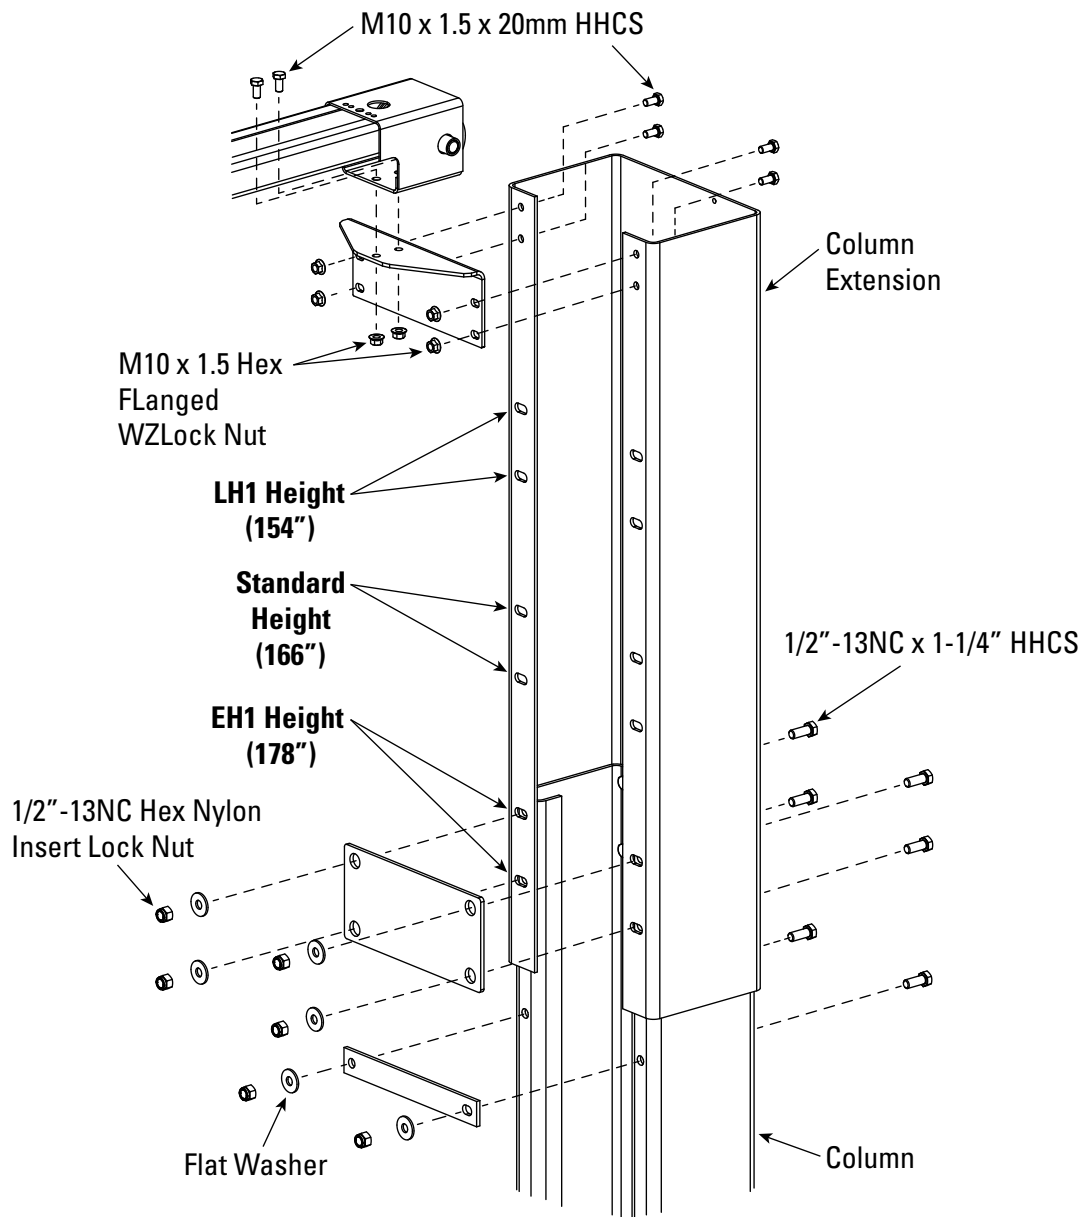
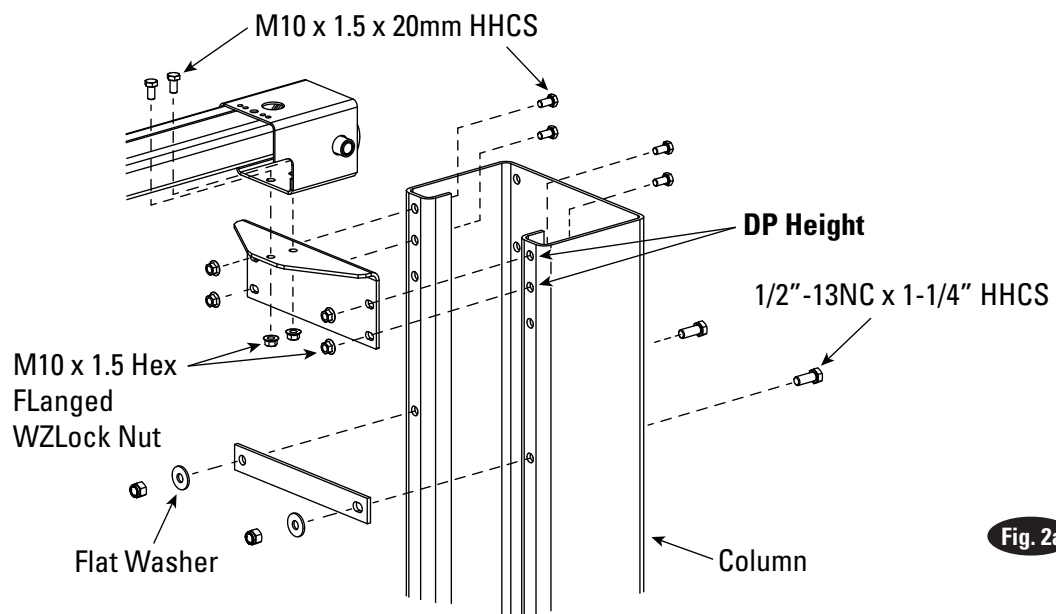
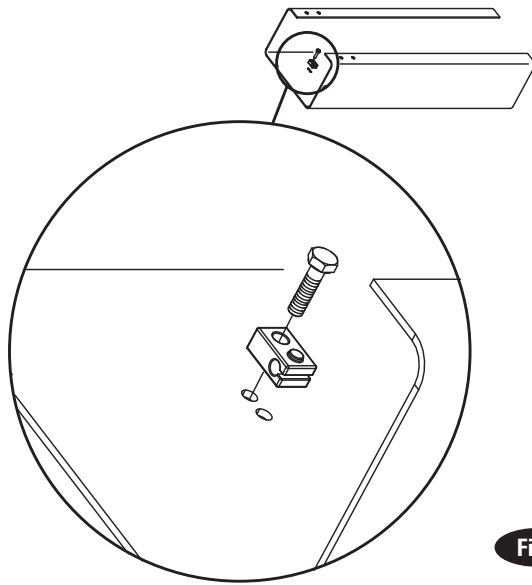

Fig. 2
Fig. 2a
Fig. 3
Lift Height: See Fig. 2 for Standard, EH1, and LH1 height settings. See Fig. 2a for DP height setting. Add 1" min. to overall height to lowest obstruction.
2. Latch Cable Guides: Install the latch cable conduit guide brackets to column extensions with (1) 1/4"-20NC x 1" HHCS and 1/4"-20NC Flanged Locknuts, Fig. 3. HHCS should go through hole nearest the edge as shown, Fig. 3.
Overhead Mounting Bracket: Install Mounting Brackets to column extensions as shown, Fig. 2 and Fig. 2a.
3. Column Extensions: While column is on the ground, install column extensions using (4) 1/2"-13NC x 1-1/4" lg. HHCS and Hex Nylon Locknut, Fig. 2 and Fig. 3. Use (2) M10 x 1.5 x 20mm HHCS and Flanged Locknut to attach the tie bar and the column extension together at the column's uppermost holes, Fig. 2 and Fig. 2a. The tie bar is positioned on the outside of the column extension. Adjust the column extensions plumb.
IMPORTANT: All star washers are to be mounted on the right side column to ensure grounding of overhead limit switch. Star washers are not needed when mounting to left side column. Notice the column extension mounting, Fig. 2 and overhead limit switch mounting as well in Fig. 6.
8. Overhead: Install overhead assembly to Mounting Bracket with (2) 3/8"-16NC x 3/4" Flanged HHCS, (2) 3/8-16NC flanged locknut, see Fig. 2 and Fig. 2a. Ensure limit switch box is mounted on power unit side, Fig. 7. Tighten bolts at center of overhead assembly.